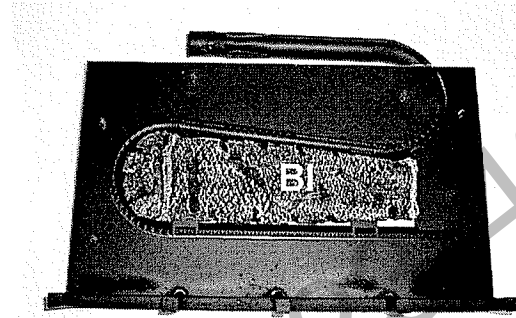

FIGURE 11A
## G) #932 DV LOG INSTALLATION. See Figures 11A - 11C
1. Place the 'BI' log onto the center of the burner cover aligning the notches in the bottom of the log to the brackets in the burner cover. Figure 11A.